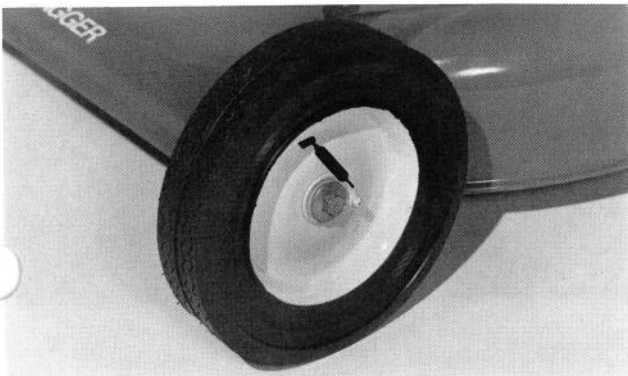

Figure 23
1. Lubricate wheel bearings with No. 2 general purpose grease (Fig. 23).